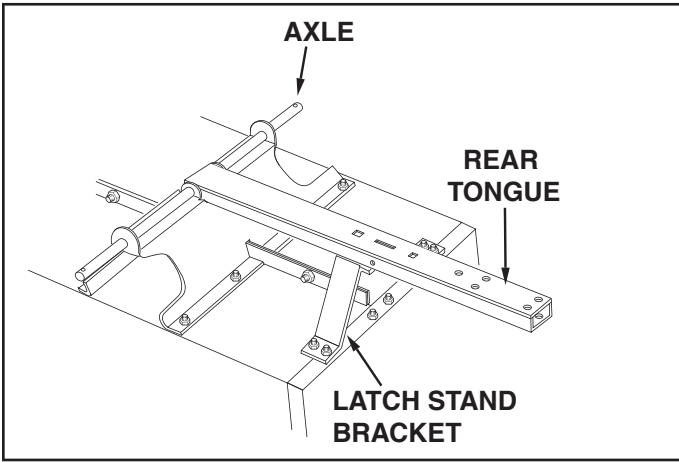

FIGURE 2
- To prevent accidental tipping during the following assembly procedures, lower the cart to rest upside down on its top flanges, so that the wheel support is facing up. See figure 2.
- Lay the drawbar tongue onto the Wheel Support and the Latch Stand Bracket. Assemble the axle through the wheel support and the tongue. See figure 2.